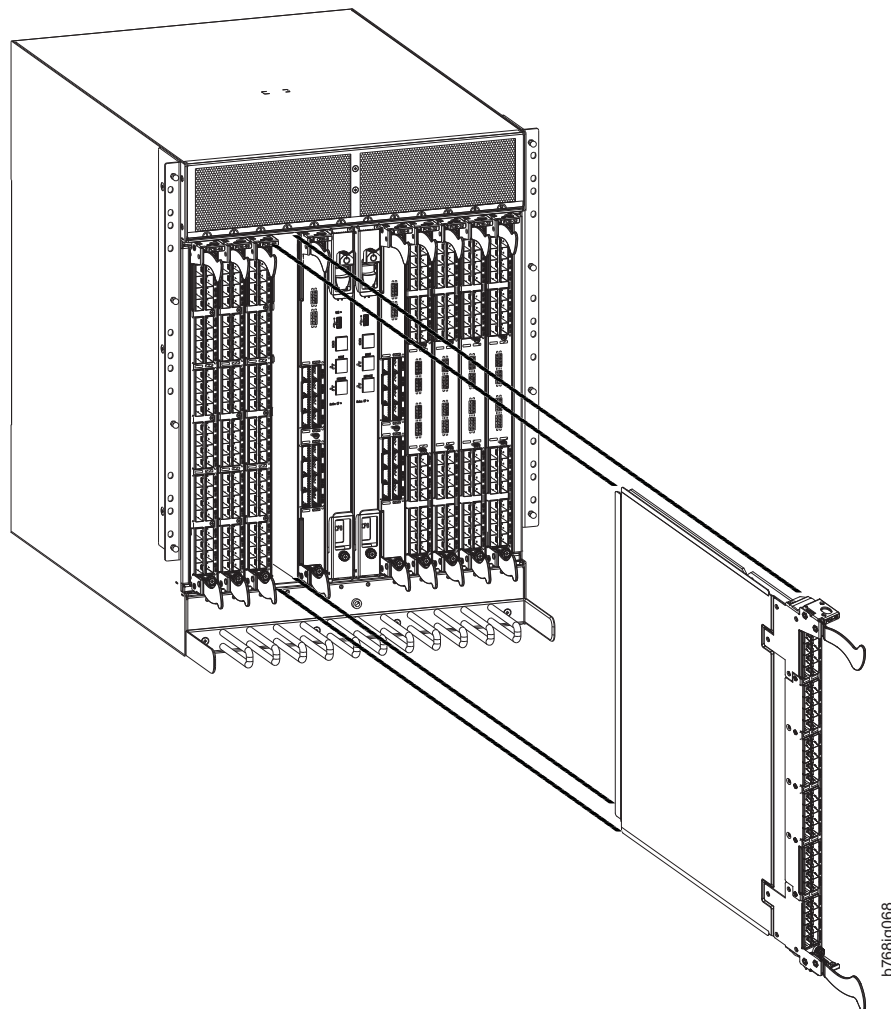

Figure 25. Port and application removal and installation (FC16-48 port blade shown as example)
8. Unscrew the two thumbscrews from the top and bottom ejectors on the blade (see Figure 25) using the Phillips screwdriver. Unscrew the top thumbscrew until it pops out. This initiates a hot-swap request.
10. Open the ejectors by pulling them toward the center of the blade face. Pull the blade out of the chassis using the ejectors (Figure 25).